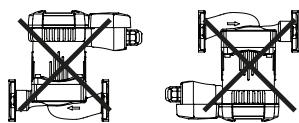

FIG. 2 Mounting the Armstrong compass
- 2 Install the pump with the motor shaft horizontal (see FIG. 2).